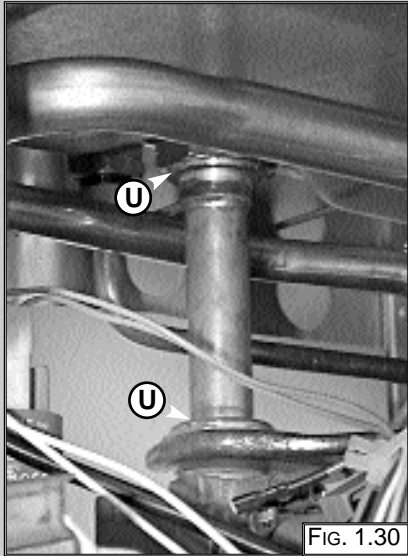

FIG. 1.30
3. Release the nuts "U" (FIG. 1.30);